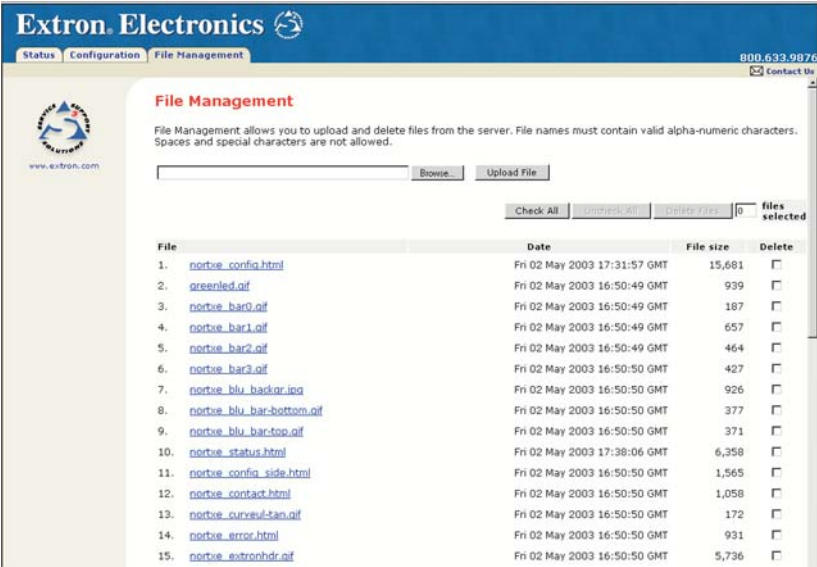

Figure 4-6 — File Management screen
- 1. Select the File Management tab. The File Management screen (figure 4-6) opens.